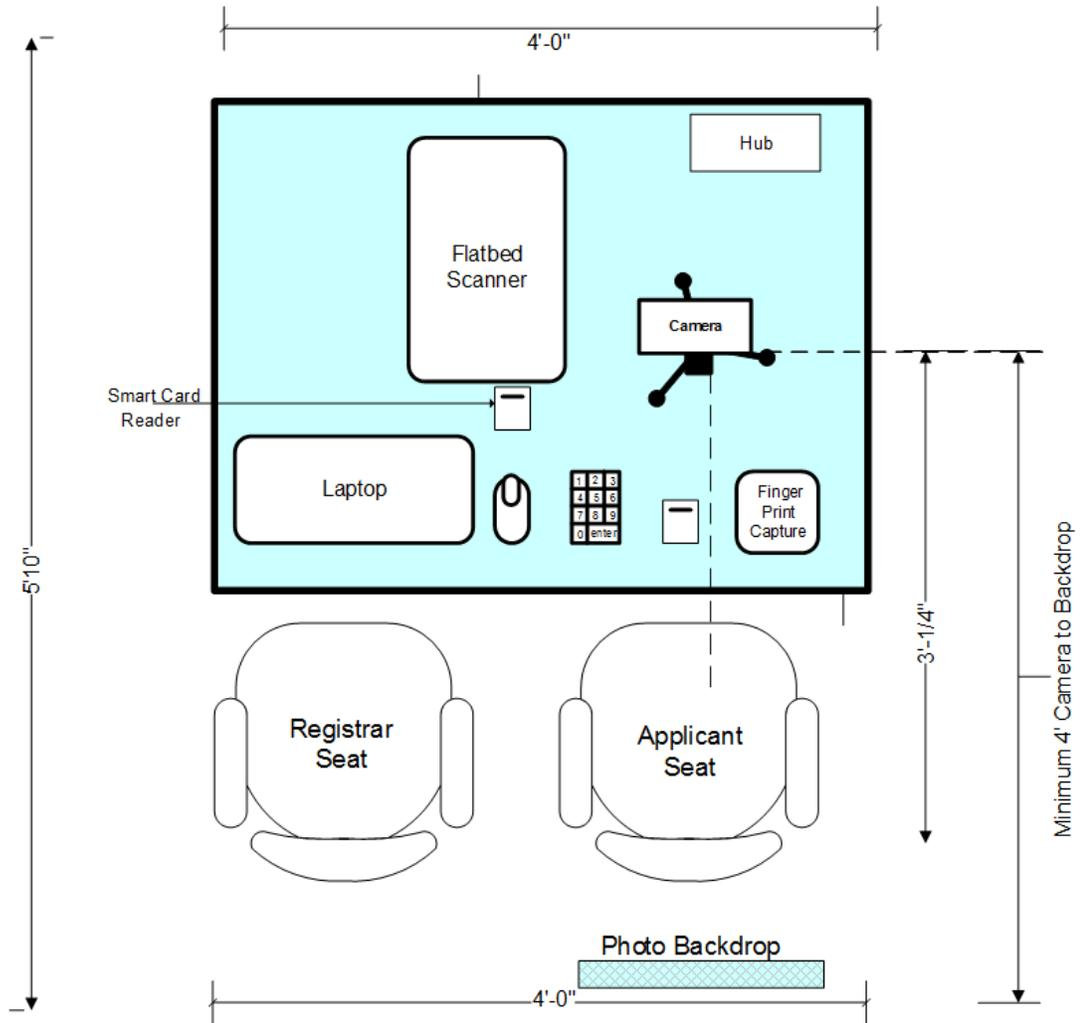

Figure 2: Suggested Mobile CU Setup
2. Place all Mobile CU equipment on the table or desk where it will be used. Figure 2: Suggested Mobile CU Setup shows a recommended equipment layout. If you also plan to use Local Print now or in the future, allow at least three feet more desktop space for the printer.